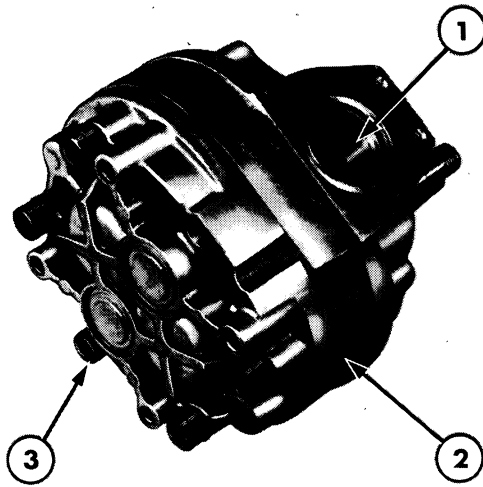

Figure 31
4. Install the drive gear and driven gear in the front cover. Carefully install the pump body over the gears making sure that the dowels enter the dowel holes in the cover. Note that the body is correctly positioned when the intake manifold bolt holes in the body are as close as possible to the intake port in the front cover as shown in Figure 31.
5. Secure the components with the five socket head cap screws and washers. Note that one of the cap screws is shorter than the others and must be installed in the position as shown in Figure 31. Tighten the cap screws to the correct torque, see Page 12, 'Specifications' — Chapter 4.